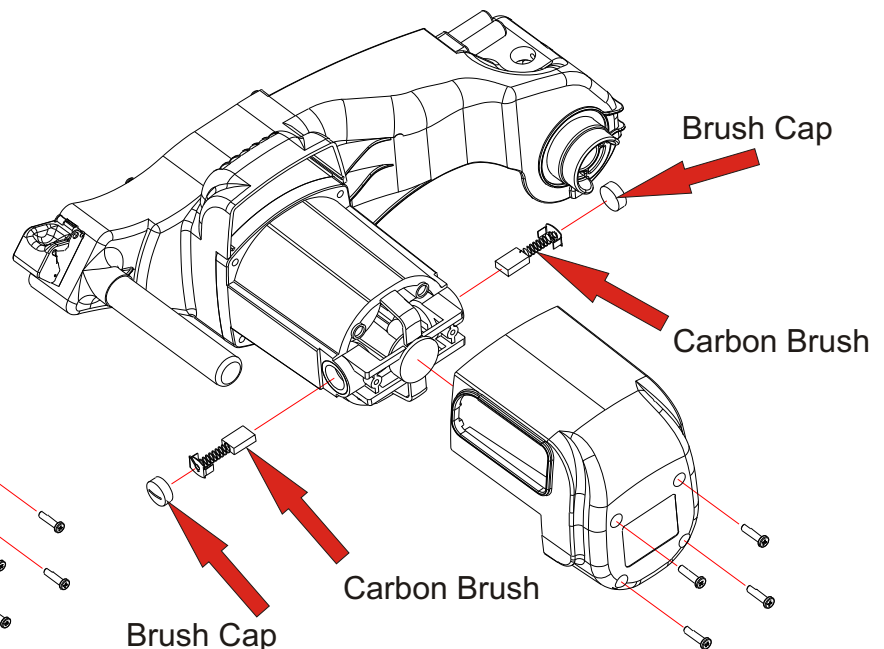

Figure 4-2: Carbon Brush Removal
5. Use a coin or wide blade screw driver to remove the Carbon Brush Cap. Use care not to damage the Carbon Brush Cap. Inspect the Cap for damage. If the Cap has any signs of damage replace (see Figure 4-2 Carbon Brush Removal)